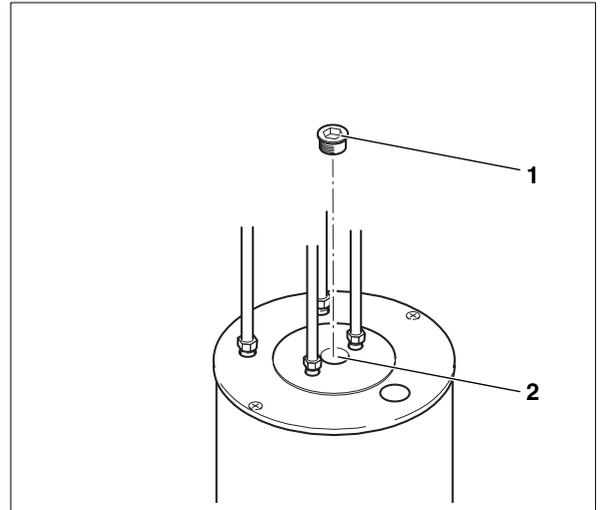

Fig. 11 Removal of inspection plug
- Remove tank inspection plug (Fig. 11, **Item. 1**) using a 15/16" Allen wrench.
- Install inspection plug (Fig. 11, **Item. 1**). Use quality teflon tape for sealing. Wrap generously.